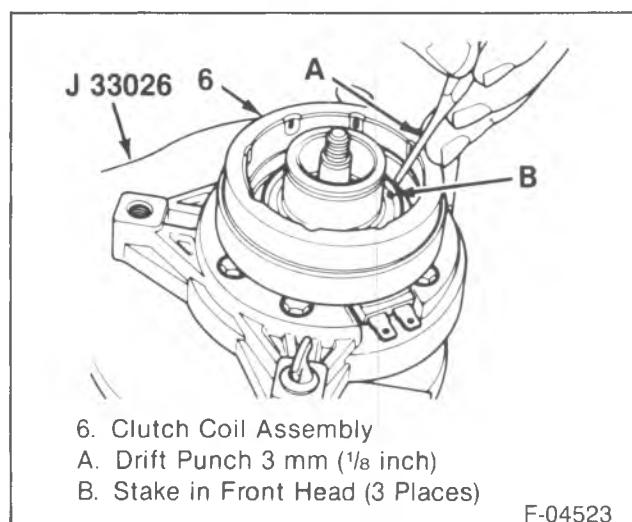

Figure 18—Staking the Clutch Coil Assembly to the Coil Head
- Be sure J 8433-1 and the clutch coil assembly (6) stay "in line" during installation.
- When the clutch coil assembly (6) is seated on the front head (11), use a 3 mm (1/8-inch) diameter drift punch to stake the head (11) at 3 places, 120 degrees apart to assure the clutch coil assembly (6) remains in position (figure 18).